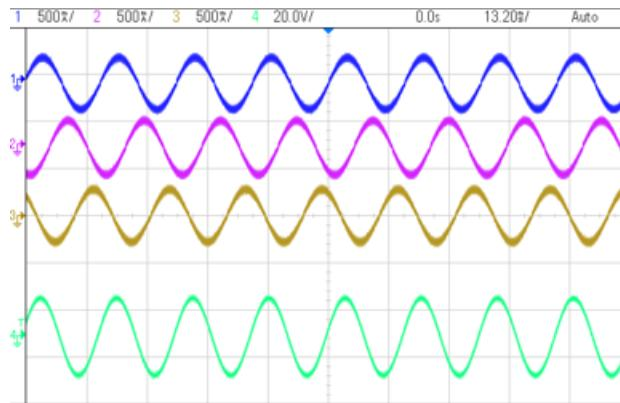

Figure 32. Build Level 2: Scope Capture IL1, IL2, IL3 and V1 (120Vrms L-N) With Current Loop Closed
10. Once the input has stabilized to 120 Vrms, raise the iLRef so the guiVbus is 600 V; for the test conditions specified, this will correspond to iLRef = 1.65. The current waveforms will look like Figure 32.